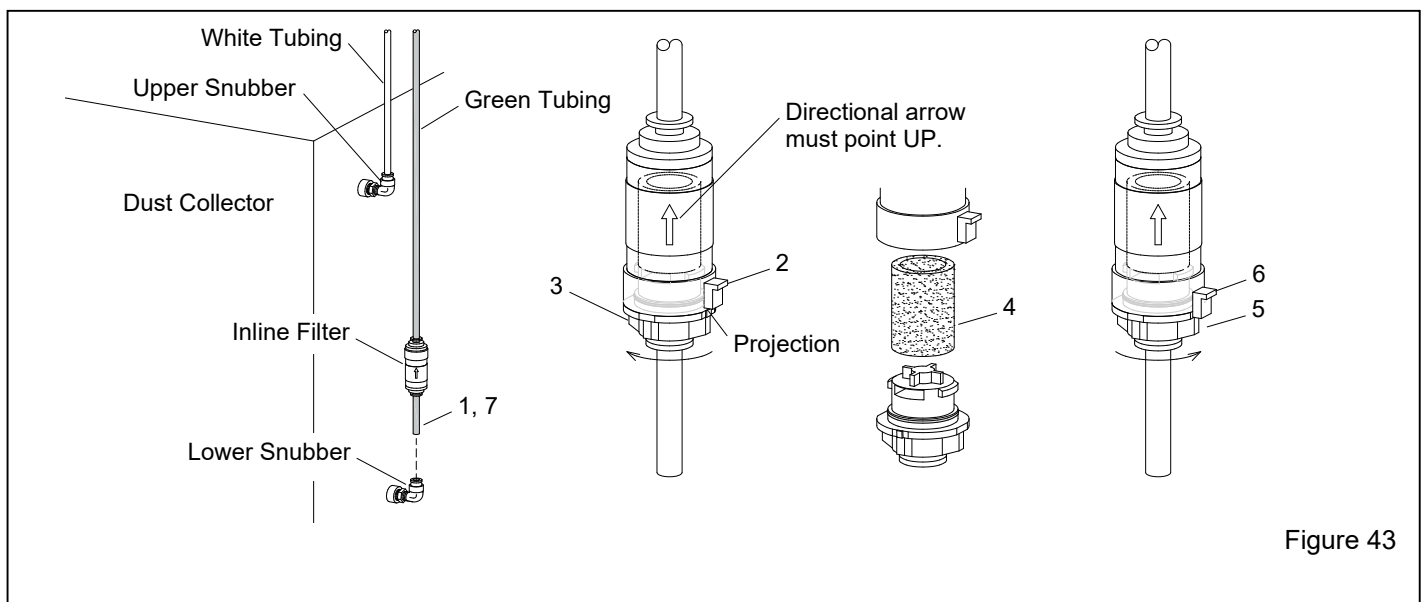

Figure 43
7.14 Clean Dust-Collector's Inline Filter – Figure 43
7.14.1 To avoid cartridge pulsing during cleaning, make sure power is OFF (red pushbutton is pressed). Refer to the matching step numbers in Figure 43 and clean the filter as follows:
7.15 Clean Dust-Collector's Snubber Fittings Figure 43